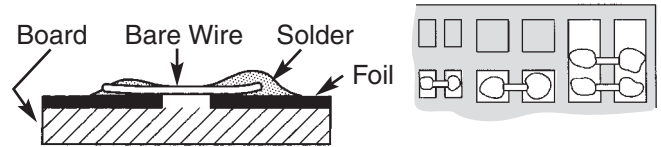

Figure 12
Wide gaps in the copper foil can be bridged using a small wire soldered across the gaps (see Figure 12). Four wires will be soldered across the two rows of small solder pads.
1. Place the iron on the top of a pad and then apply the solder (see Figure 12). Allow the solder to flow around and form a small pool.
4. Position the wire on top of the solder pad and then place the iron on the wire. As the solder melts, the wire will be pressed down against the pad (see Figure 12). Remove the iron while holding the wire in place. Make sure the wire does not move until the solder hardens.
7. Cut the wire off as close to the solder joint as possible (see Figure 12).